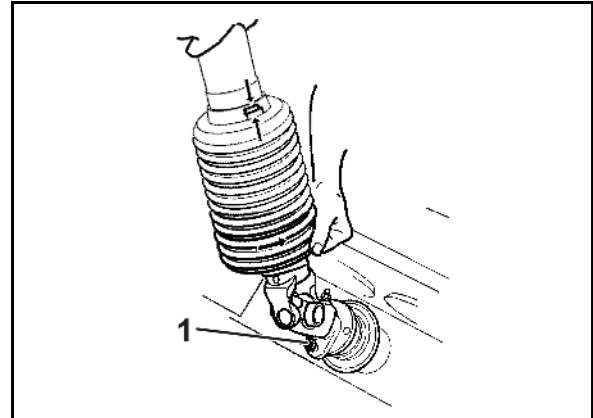

Fig. 95
2. Remove the grease nipple (Fig. 95/1) in the connection fork (Fig. 95/3) of the PTO shaft (Fig. 95/2).
3. Remove the shear bolt (Fig. 95/4) between the fork flange of the PTO shaft and the flange of the gearbox input shaft.